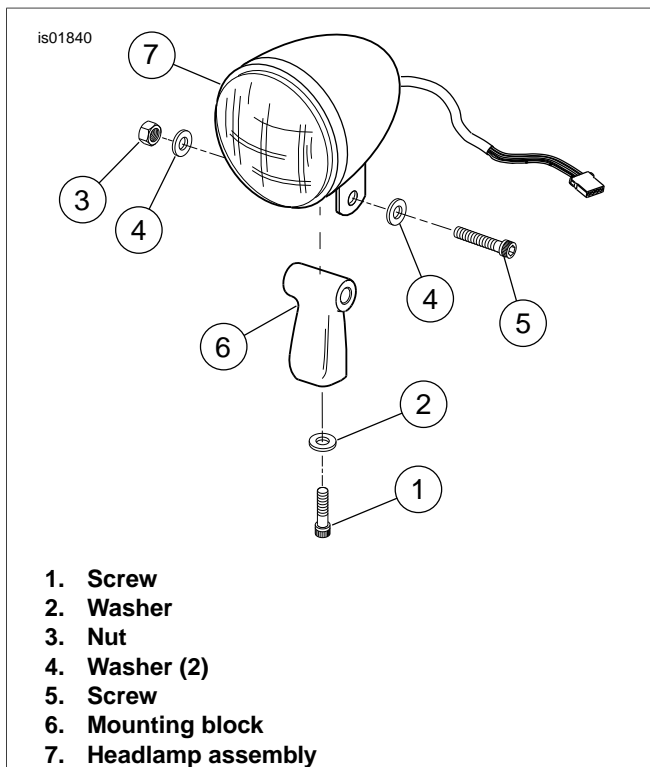

Figure 7. FXR Headlamp Assembly with Mount
5. See Figure 7. Remove screw (1) and washer (2) from stem and bracket. Save screw and washer for later use.
6. Remove and discard nut (3), washers (4), and screw (5).
7. Remove and discard mounting block (6) and headlamp assembly (7).